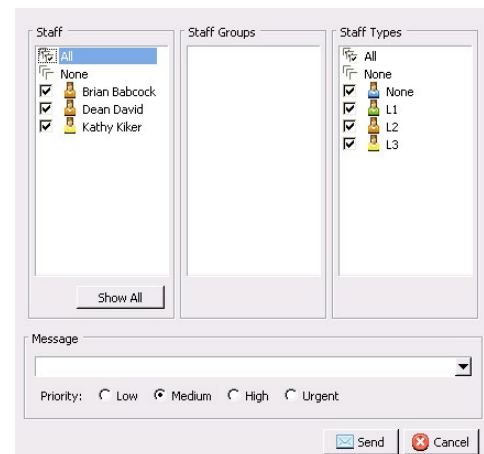

Figure 61: Send Text Message
1. In the Event Monitor software, click the text message button to open the paging window as shown in Figure 61.